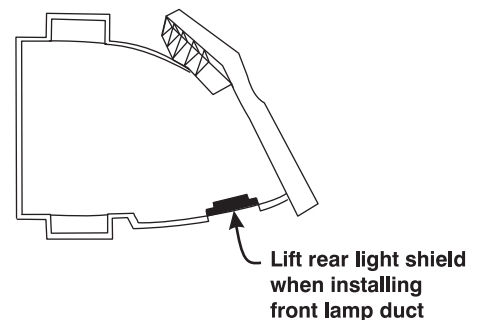

Figure 6-3 Light Shield on Front Lamp Duct
9. Re-install the front lamp duct. As you install the front lamp duct, lift the small light shield on the rear lamp duct cover so that it does not get jammed between the two pieces when they come together. **(Figure 6-3)** To ensure a good fit between the two pieces, squeeze the top and bottom cover snaps to ensure they are locked in place. The light shield should move freely to the touch.